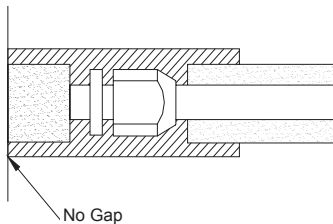

Fig.11.21
- ◆ The joint connecting to the indoor unit must be wrapped by thermal insulation material. There shall be no gap between the connecting pipe joint and the wall of the indoor unit. Refer to Fig.11.21 .